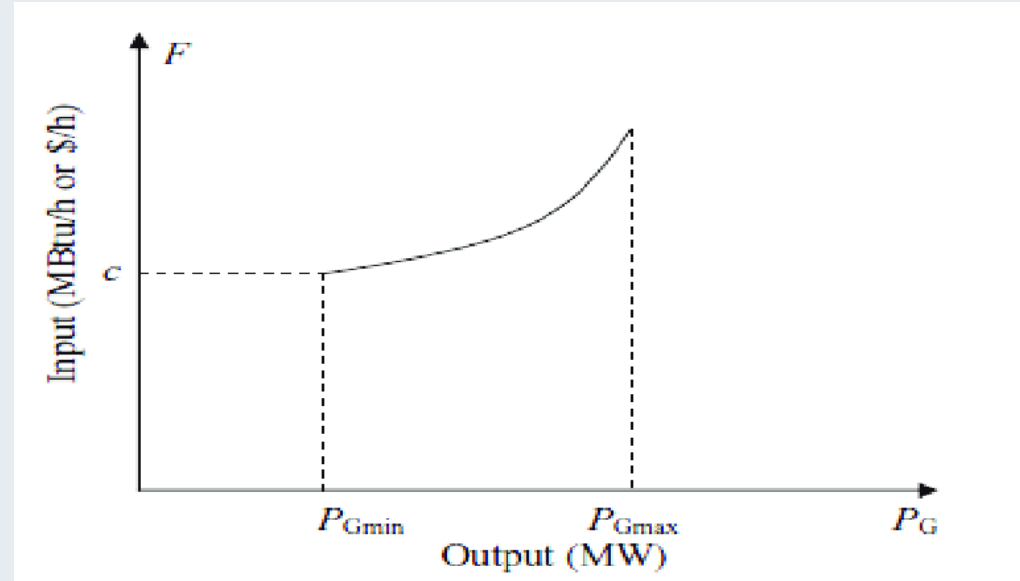

Figure 2. Input-output curve of steam turbine.
- The idealized curve establishes a relationship between energy input and electrical output is presented in Fig.2[2]